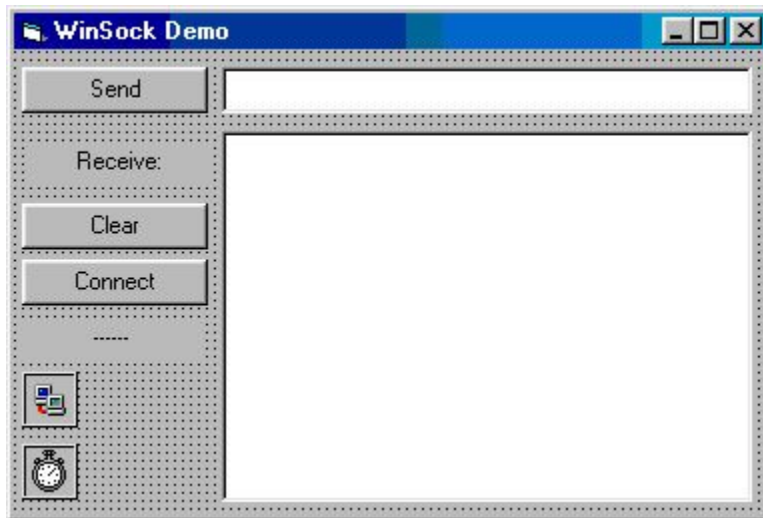

Fig. 4. Controls for the Demo, step 3
- The TCP/IP is a connection-oriented protocol so we will need to add a button to connect to/disconnect from the remote host. Add *CmdConnect* CommandButton to your form, set its *Caption* to "Connect" (see *Fig. 4*)